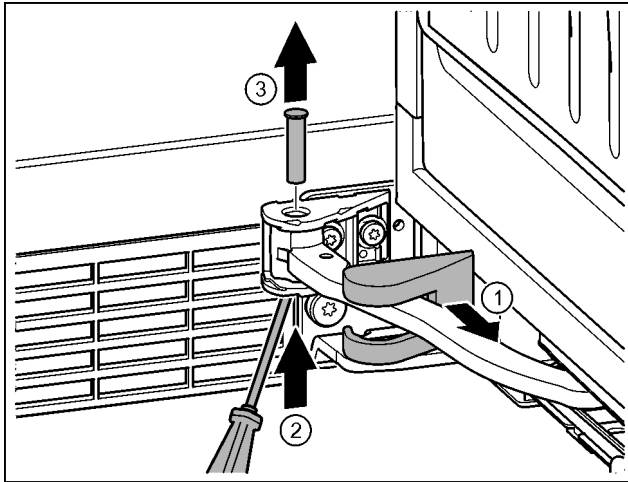

Fig. 17
- ▶ Remove the bearing bracket cover and push it along the hinge. Fig. 17 (1)
- ▶ Lift the bolt with a finger or screwdriver from below. Fig. 17 (2)
- ▶ Insert the screwdriver under the bolt head and remove. Fig. 17 (3)